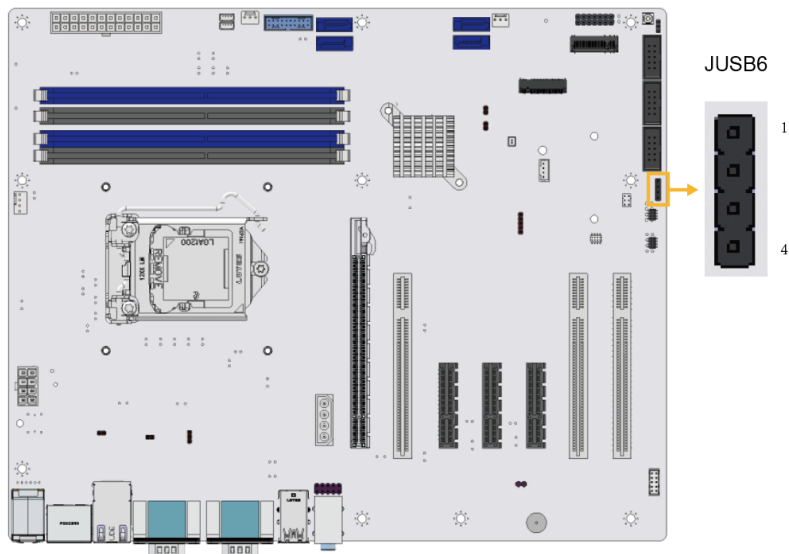

Figure 3-35: Internal USB 2.0 Connector Locations
- CN Location:** See Figure 3-35